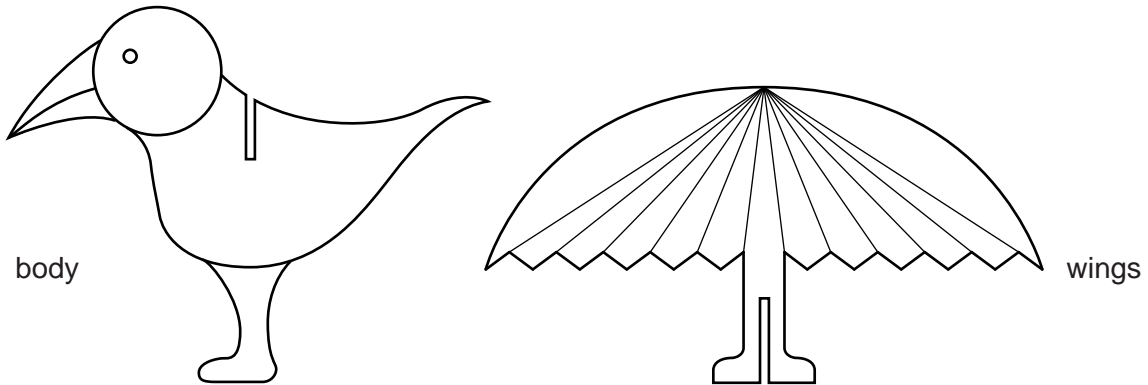

Fig. 4
- 4 Fig. 4 shows a design for part of a child's activity sheet. The activity sheet will be printed on the back of cereal boxes. A child will cut out the two parts, colour them in and slot them together to make a model of a bird.